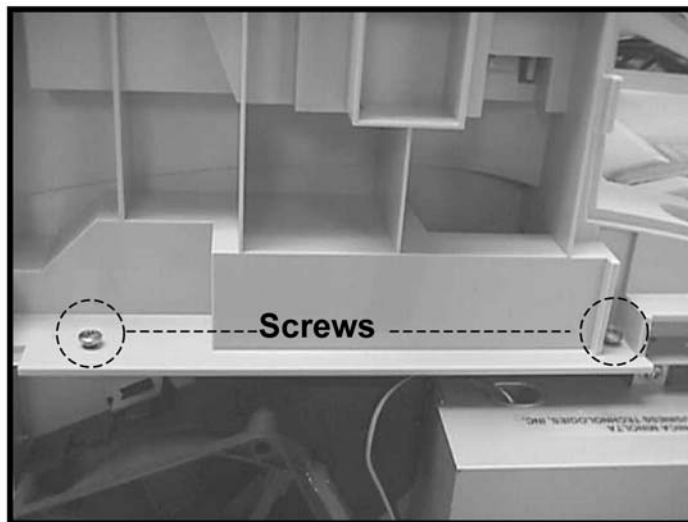

Figure 1
4. Remove the two screws shown in Figure 1.